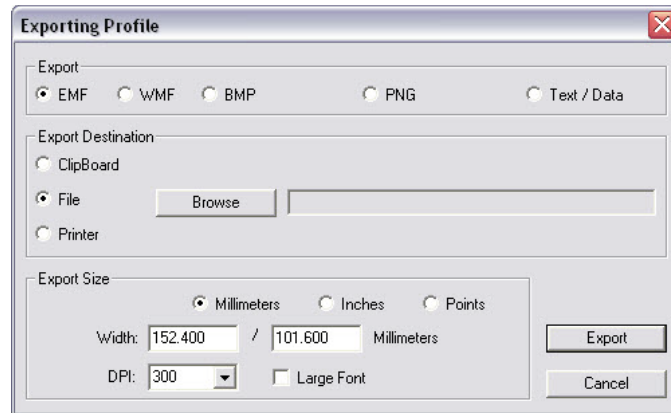

Figure 8.4.6. Data Export Options.
14. To export the data in different formats, rt-click on the plot, and select *Export/Print* for several options to export the graph or data from the graph (Figure 8.4.6)